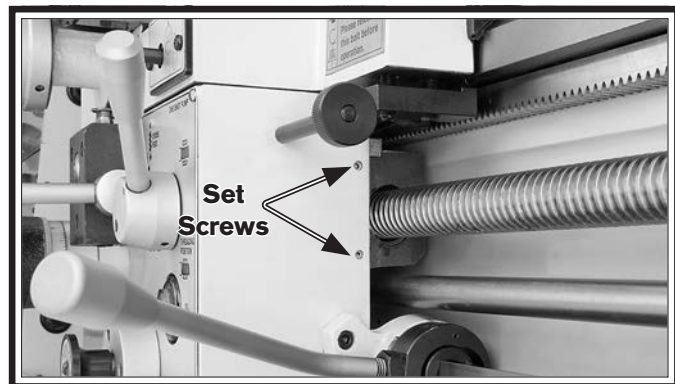

Figure 123. Half nut gib adjustment.
2. Turn the two set screws (see **Figure 123**) clockwise to tighten the half nut and counterclockwise to loosen it.